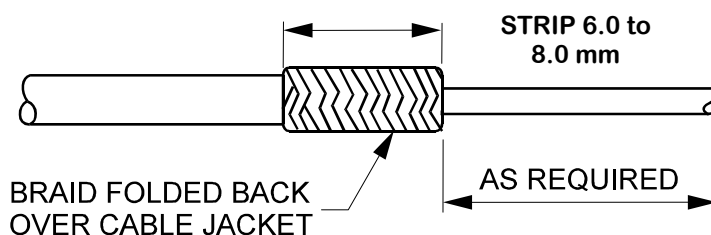

Figure 3-29 Preparation of End Stripped Braided Cable
- c. For cables rated between 105°C and 125°C, or to build up the diameter of small cables, fold back the braid and prepare as per dimensions illustrated in Figure 3-29.